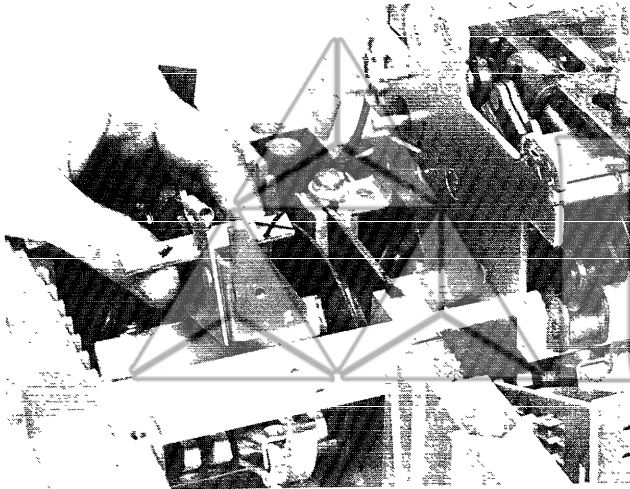

Fig. 4
- Position the auxiliary switch assembly so that the tapped mounting holes on its bracket line up with the through holes in the arm stop (Fig. 4).